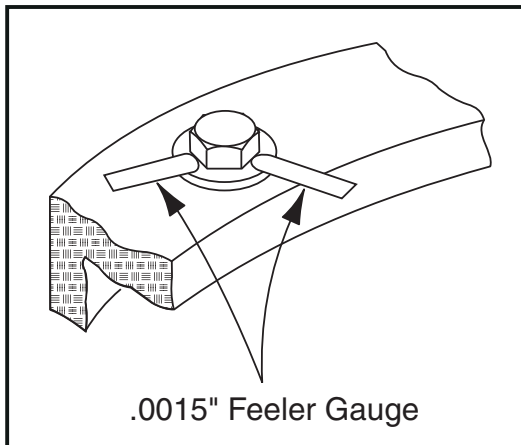

Figure 3-25. Swing Bearing Feeler Gauge Check
3. On the frame, at the rear of the turntable, try to insert the 0.0015" feeler gauge between the bolt head and hardened washer at the indicated position. (Figure 3-25., Swing Bearing Feeler Gauge Check)